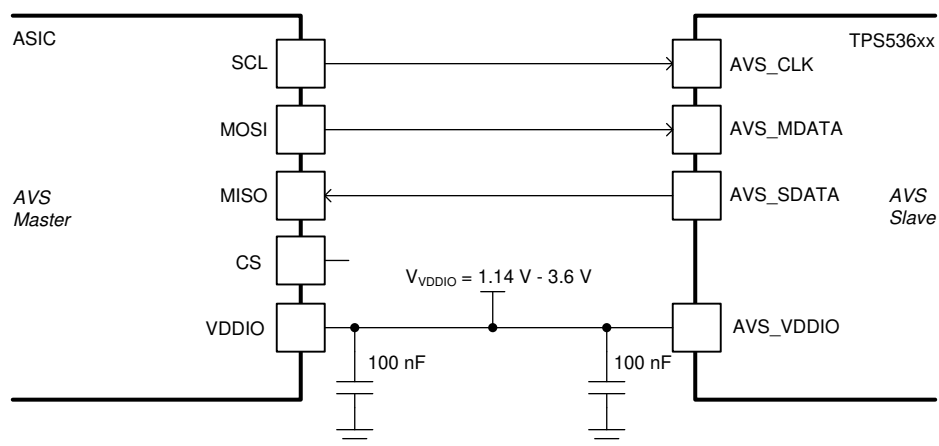

图 7-12. AVSBus connection diagram
图 7-12 illustrates how to interface the TPS53676 with a host ASIC or load with an integrated *Serial Peripheral Interface* (SPI) port. AVSBus is a point-to-point protocol and does not use a chip select (CS) pin. AVSBus uses push-pull signaling and requires a separate supply pin, AVS_VDDIO. Connect a well-regulated supply between 1.14 V and 3.6 V to AVS_VDDIO, and a local high quality ceramic bypass capacitor of 100 nF minimum effective capacitance. The input high and low thresholds are set relative to the voltage supplied at the AVS_VDDIO pin, as shown in the *Electrical Specifications* table. In applications which do not use AVSBus, ground the AVS_VDDIO, AVS_CLK and AVS_MDATA pins; float the AVS_SDATA pin.